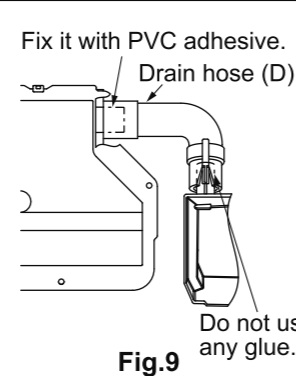

Fig.9
- (1) Connect the drain hose (D), which is fixed to the left side drain port on the indoor unit to the drain port on the Drain Pump as shown in Fig.9. Be sure to use PVC adhesive to close the connection part so that water will not leak.